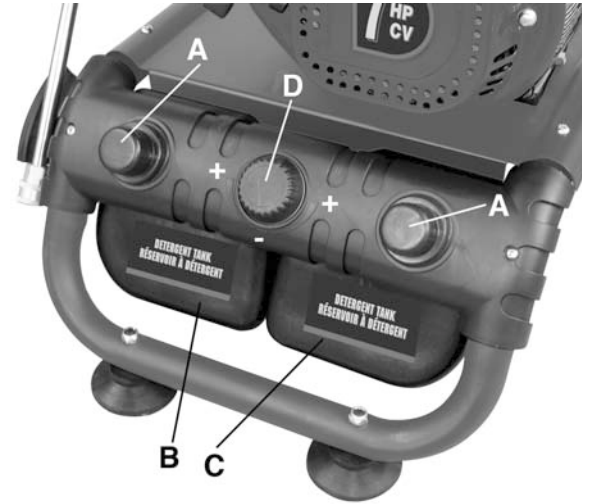

Figure 12
- 1) Remove the detergent tank caps (A) and pour two types of detergent into the separate detergent tanks (B & C) Fig.12.
- 4) Use the detergent dial (D) Fig.12 to control the type and amount of detergent used using the scale as reference. Set the dial to Off position in order to shut-off the detergent supply.